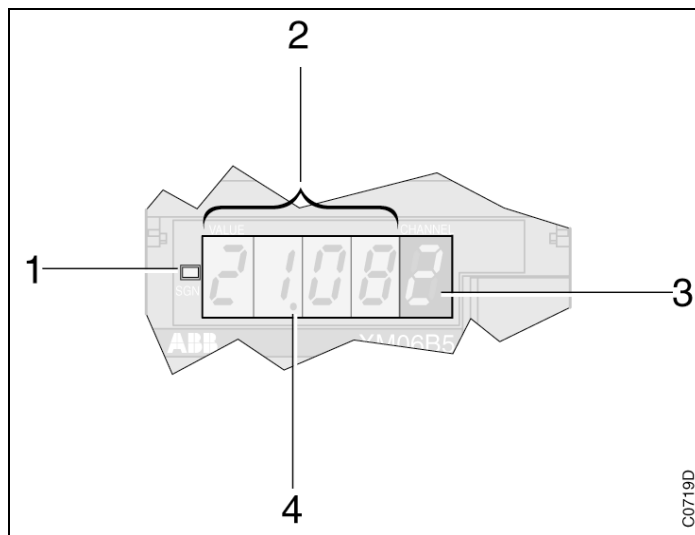

Figure 3-14 : Display description
6.2. Analog display (see Figure 3-14)